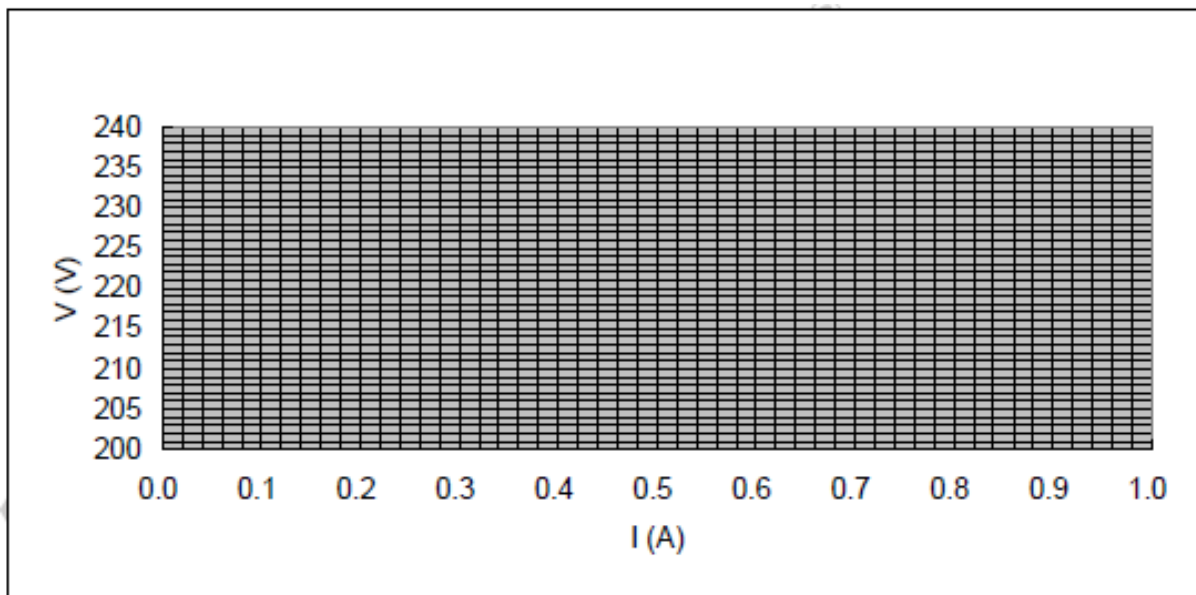

Fig. 1-4-7 The V vs I curve (resistive load)
5. Using the results of Table 1-4-1, plot the V vs I curve on the graph of Fig. 1-4-7.